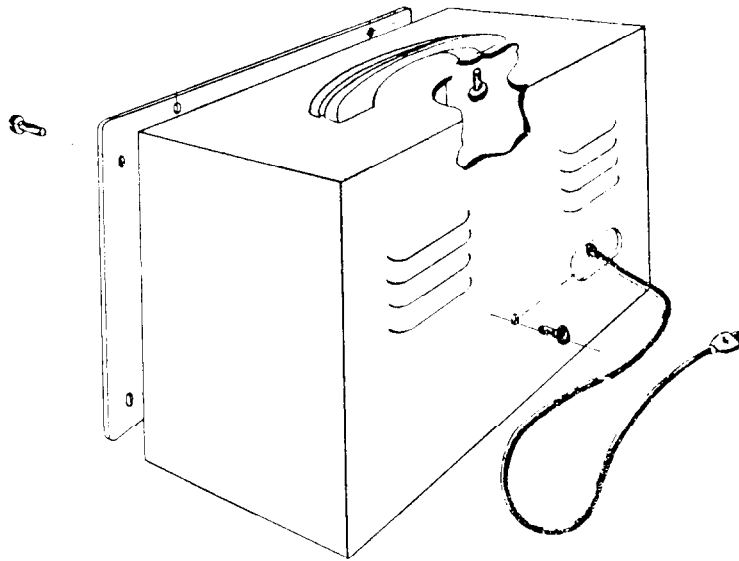

Fig. 19
7) Mount the handle on the cabinet with 2 #10-24 screws as shown in Fig. 19.
8) Run the a-c line cord through the rear cabinet opening and insert the completed unit in the cabinet. Align the hole in the cabinet rear and the hole in the rear chassis apron and insert 1 #6 P.K. screw. Then align the 8 panel holes with the corresponding holes in the cabinet flange and insert 8 #6P.K. screws. Tighten all screws. (See Fig. 19.)